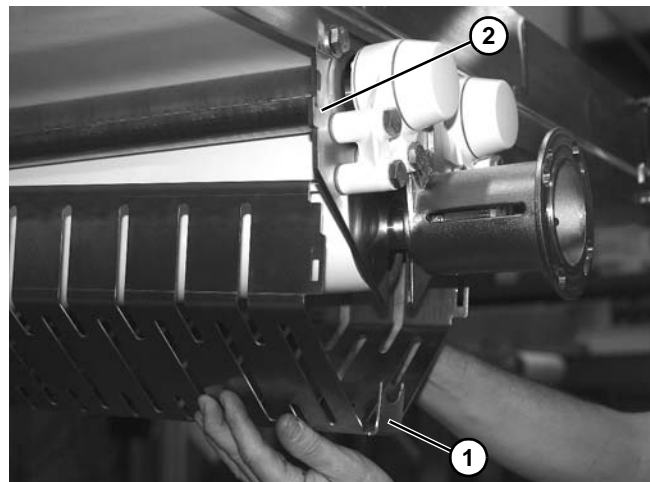

Figure 88
9. Repeat on opposite side and opposite end, and remove cover (**Figure 88, item 1**) from center drive side plates (**Figure 88, item 2**).